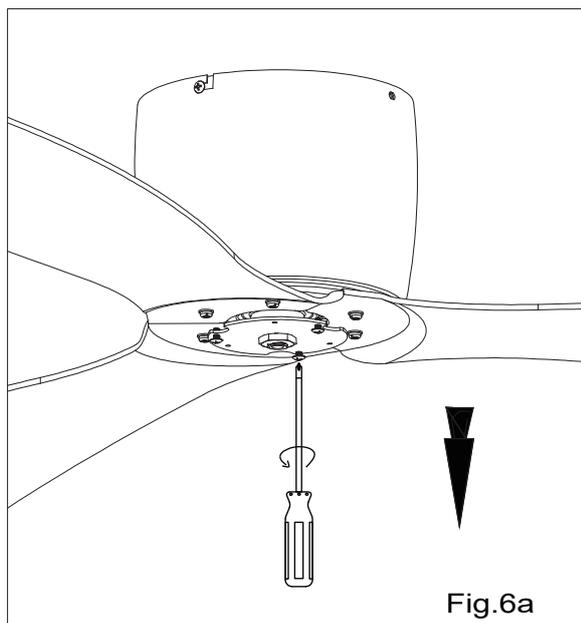

Fig.6a
- Remove light kit screws. (Fig.6a)